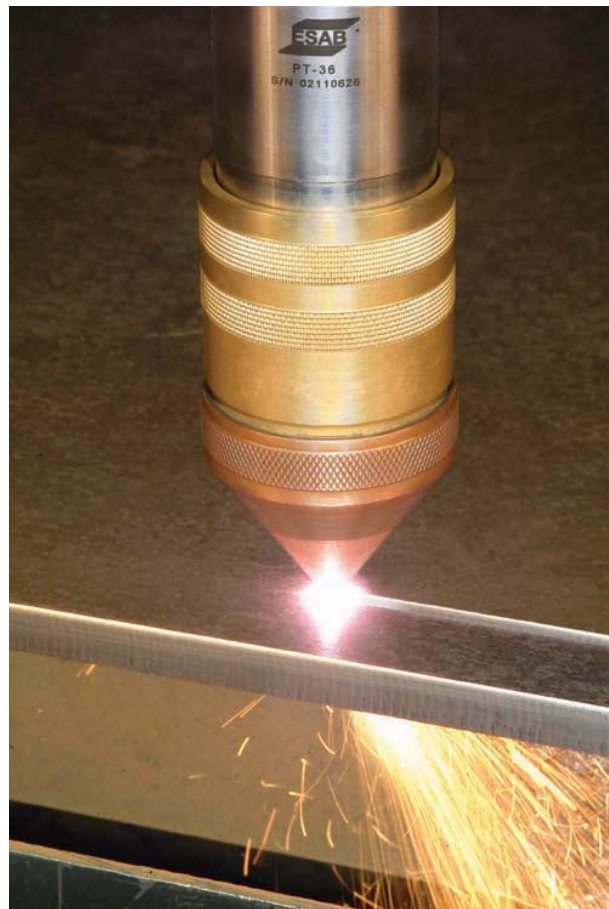

FIGURE 22-18 When the standoff distance is correct, as with this machine cut, almost no sparks bounce back on the cutting tip. ESAB Welding & Cutting Products
- Standoff distance—The closer the torch nozzle tip is to the work, the narrower the kerf will be, Figure 22-18.